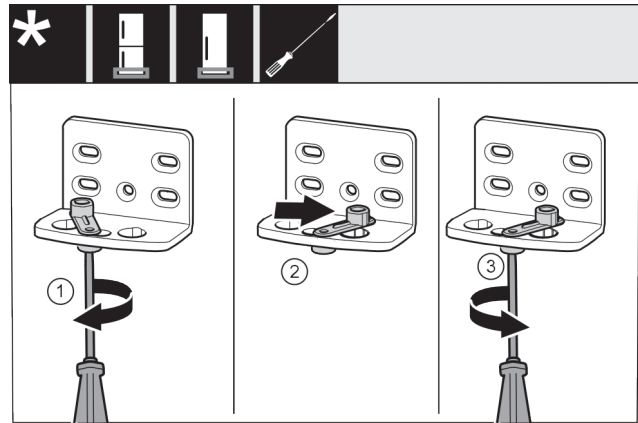

Fig. 19 *
- ▶ Use screwdriver to loosen the screw Fig. 19 (1).*
- ▶ Lift the door closing aid Fig. 19 (2) and turn 90° clockwise in the hole.*
- ▶ Tighten screw Fig. 19 (3) with screwdriver.*